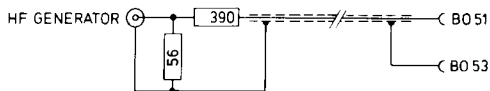

Fig. 12
- Connect the HF generator to connectors B051 and B053 (earth) via a filter (Fig. 12).
- Connect the HF generator to the connectors B051 and B053 (earth) via a filter as shown in Fig. 12.